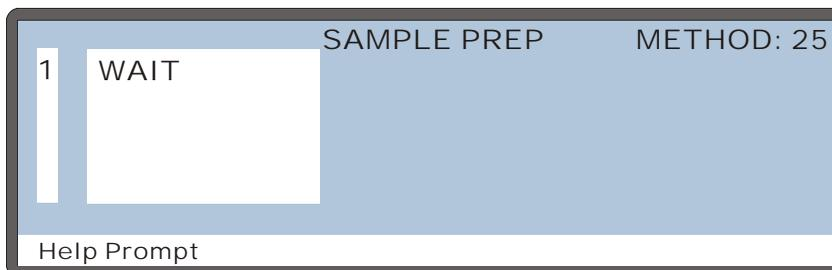

Figure 3-12. Sample Prep Screen (Default)
1. In the **METHOD MENU**, move the cursor to the **1** field (**SAMPLE PREP**) and press **Enter** to display the **SAMPLE PREP** screen (see Figure 3-12).